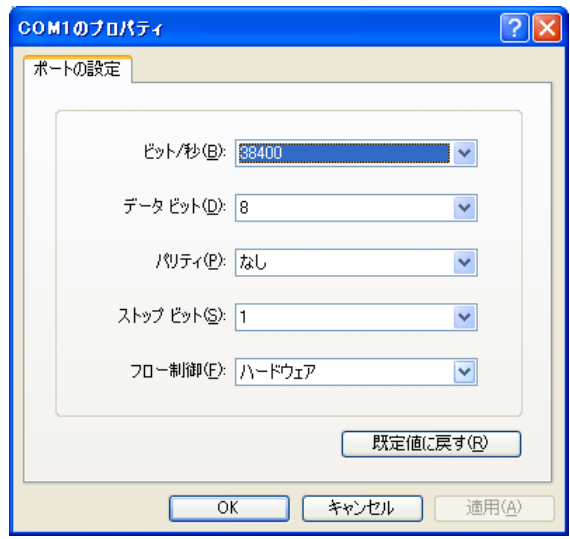

Fig 19 : Property of Port
reference Port setting is activated from property window of port [Fig 19] by selecting a connected serial port from view on port tab of printer property, a click on [port configuration (C)] button.